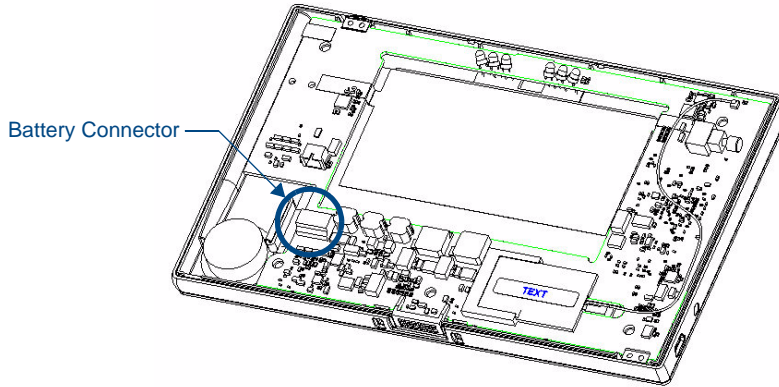

FIG. 6 Interior of MVP-5100, including female battery connector
- Carefully remove the back cover and detach the battery lead at the battery connector (FIG. 6). This will allow the back cover to be detached from the device.
- Make sure to seat fully the battery plug to the connector in the device (FIG. 6). If fingers cannot be used, use a clean, nonconductive stick or probe to seat the plug in the connector.